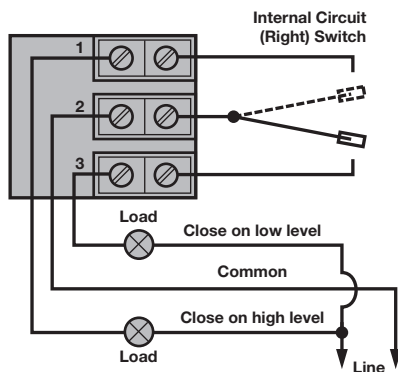

Figure 5
- a. SPDT Switch – Refer to Figure 5.
9. Replace the control wires on the appropriate terminals or wiring leads of the new switch. Refer to Figures 5–9 on pages 3–4 as necessary.